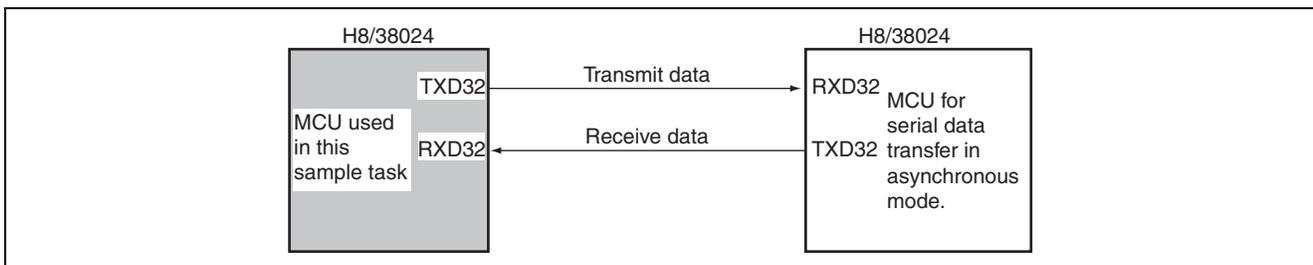

Figure 1.1 Simultaneous Serial Data Transmission/Reception in Asynchronous Mode
- Using the serial data transfer function in asynchronous mode, four bytes of 8-bit data are simultaneously transmitted/received as shown in figure 1.1.